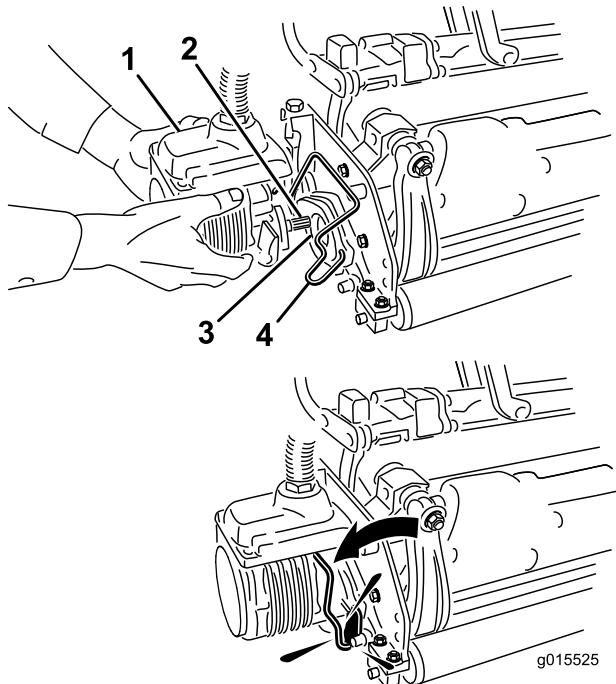

Figure 34
6. Coat the spline shaft of the cutting unit motor with clean grease (Figure 34).
7. Insert the motor into the left side of the cutting unit (as viewed from the operator’s position) and pull the motor retaining bar on the cutting unit toward the motor until you hear an audible “click” from both sides of the motor (Figure 34).